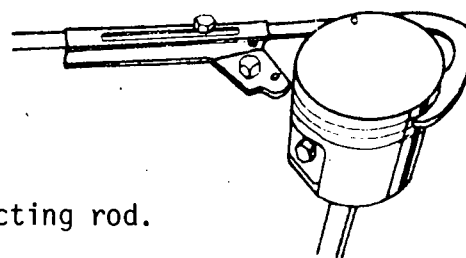

Fig. 1
- b) Use the recommended tool for cleaning the piston grooves fig. 1.